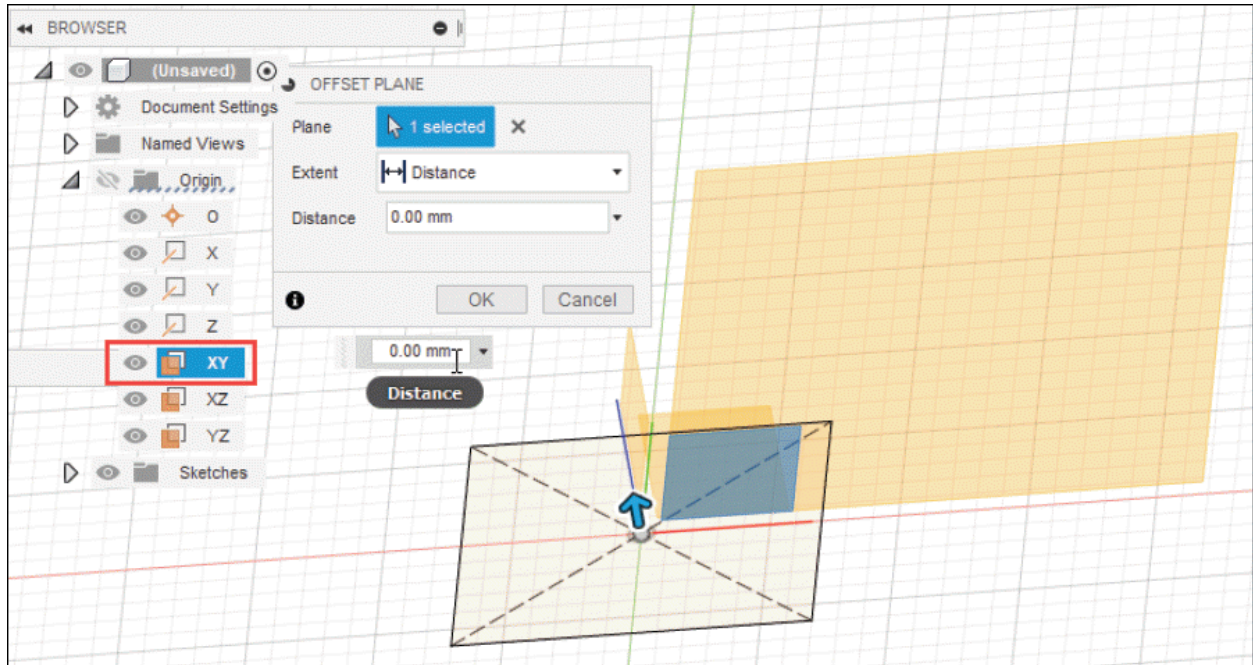

Figure-6. Creating offset plane
- Click on the **Offset Plane** tool from the **CONSTRUCT** drop-down of the **SOLID** tab in the **Toolbar** and select **XY Plane** from **Origin** node of **BROWSER**; refer to Figure-6. (You will learn more about the plane and construction geometries later in this chapter.)